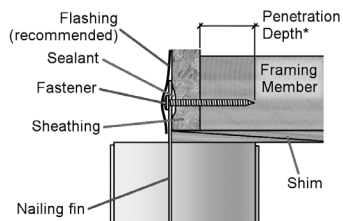

Figure 3 - General Installation
- (Required)** Apply a generous (at least 3/8" bead), continuous bead of exterior-grade sealant to ensure an adequate seal between the back of the nailing fin and the exterior surface of the rough opening (reference **Figure 3**). The bead should run along the approximate location of the nailing holes (if the nailing fin has two rows of holes, apply sealant in line with the inner row). **▲ If using pan flashing, do not seal the lower sill nailing fin so as to provide adequate drainage.**